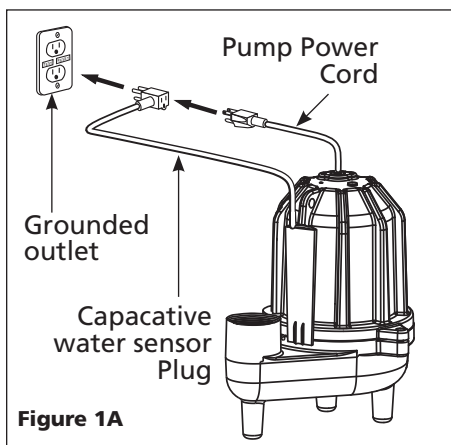

Figure 1A
11. This equipment is only for use on 120 volt (single-phase) and is equipped with an approved 3-conductor cord and 3-prong, grounding-type plug as shown in Figure 1A and 1B.
- Inserting plug directly into a properly installed and grounded 3-prong, grounding-type receptacle (as shown in Figure 1A and 1B).